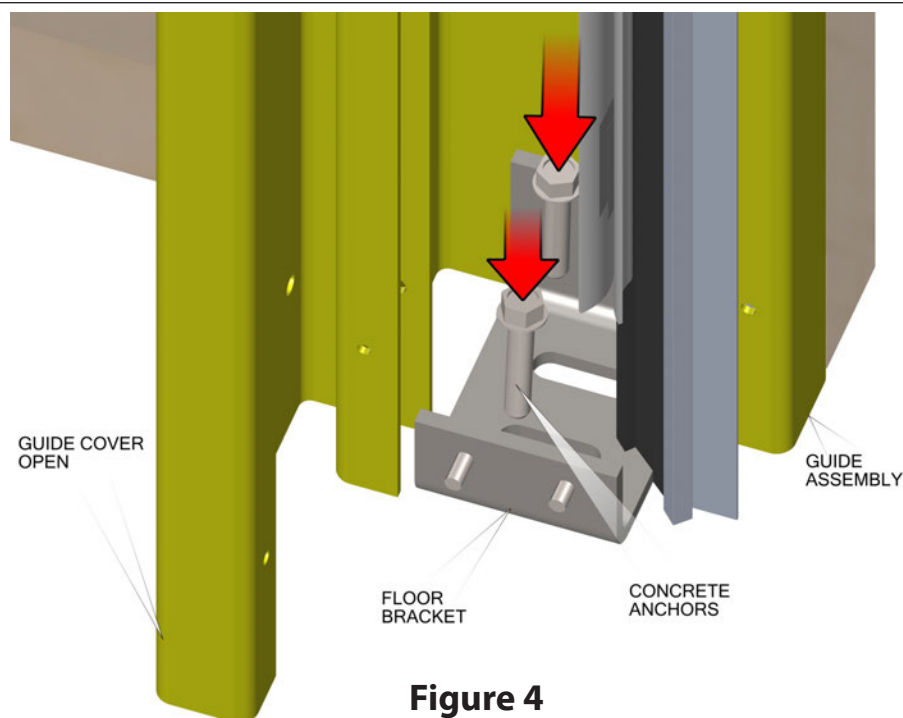

Figure 4
- Install the concrete anchors through the floor bracket, securing the guides to the floor. See Figure 4.